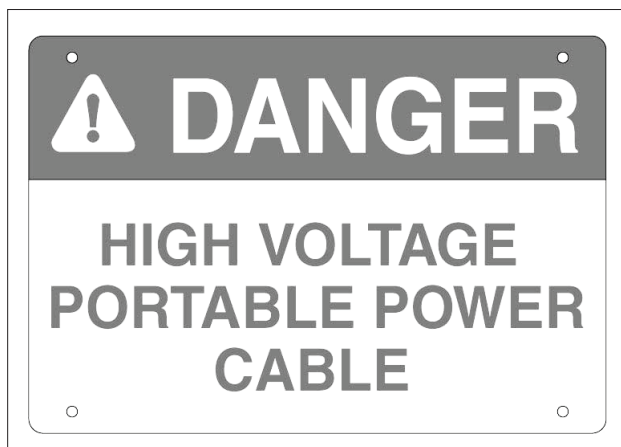

Figure 66-1 Danger Sign
1. Ensure that the danger signs are in place and visible at each end of the travel lane. See figure 66-1.